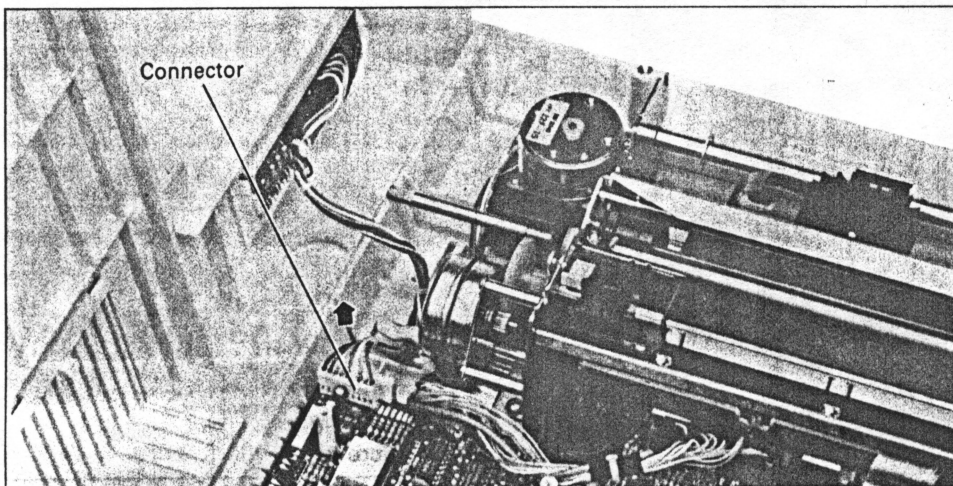

Fig. 2 Removal of Upper Case (2)
- (4) Lift the upper case of the printer, unplug the cable connector connecting the control panel and the control circuit board from the control circuit board. (See Fig. 2.)